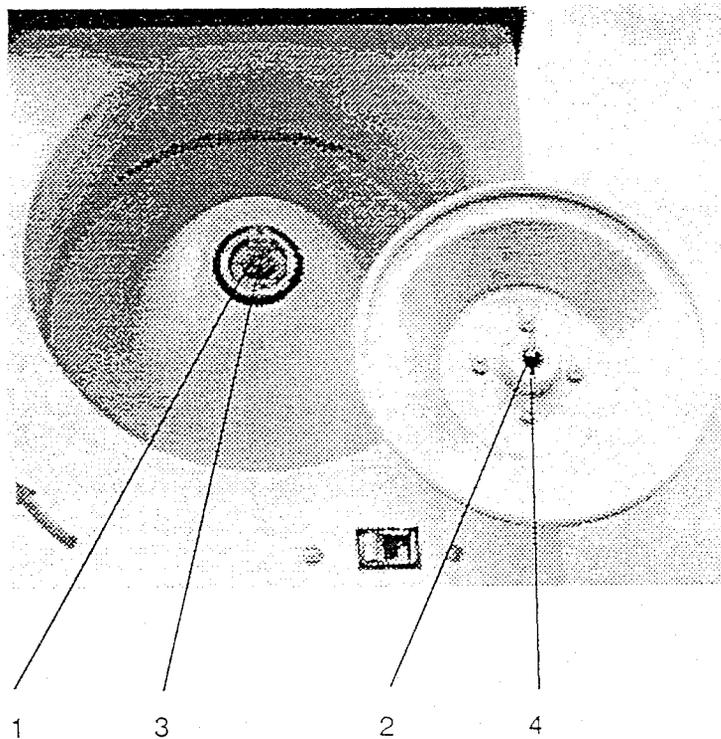

Figure 7
Clean the motor shaft (1) and the rotor mounting hole (2) with a piece of cloth and place the rotor on the motor shaft ensuring that the pins (3) align correctly with the rotor slots (4), (see figure 7).